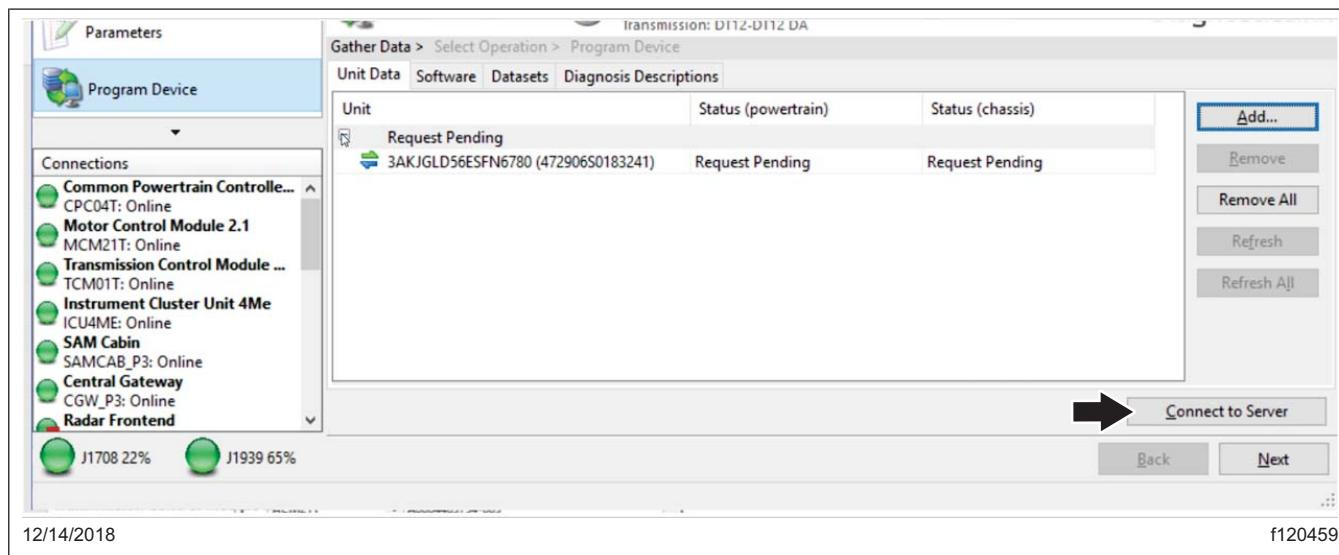

Fig. 8, Downloading Updated Unit Data
9. There should be a request pending status for the VIN. Click "Connect to Server" to download the updated unit data. See Fig. 8. The server will provide any new software available on the server as well as updated parameter sets for the new software, adjusted for the parameter set that was just uploaded from the vehicle.
8. There should be a request pending status for the VIN. Click "Connect to Server" to download the updated unit data. See Fig. 8. The server will provide any new software available on the server as well as updated parameter sets for the new software, adjusted for the parameter set that was just uploaded from the vehicle.